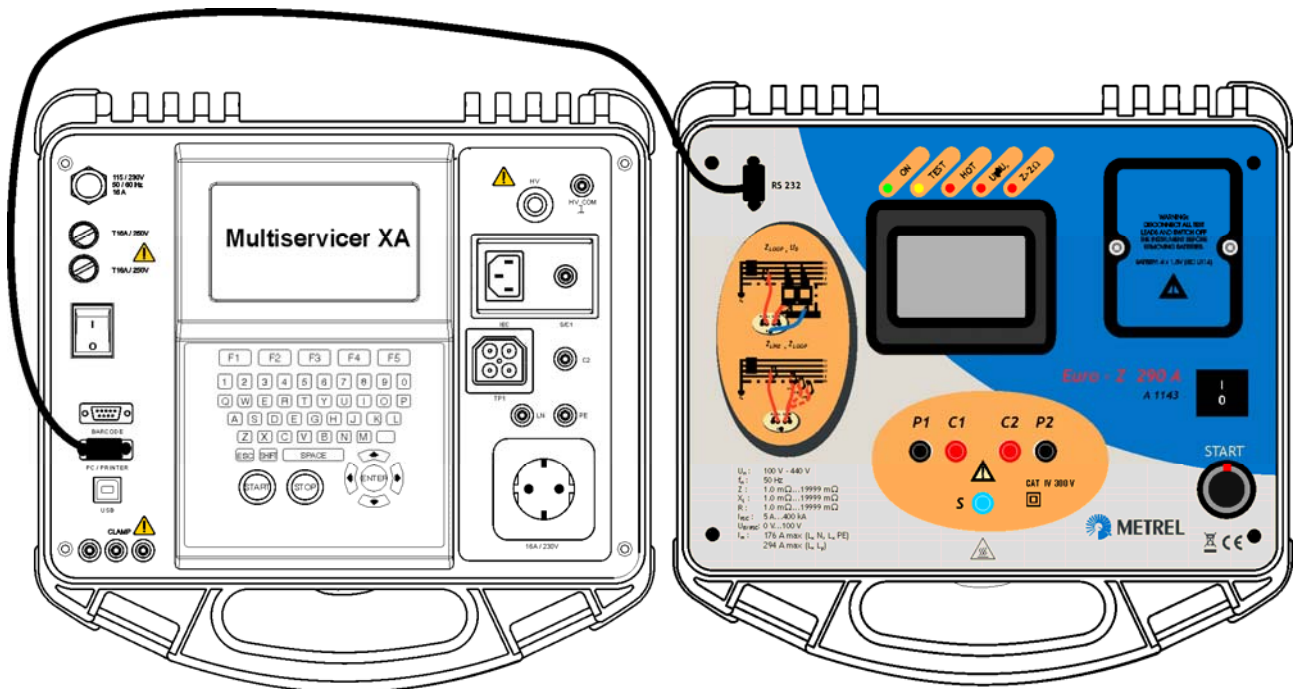

Figure 4.3: Connection of the Euro Z 290 A adapter to the Multiservicer XA
- ❑ Connect communication interface cable RS 232_9pin_female / RS 232_9 pin_male to the Multiservicer XA and the Euro Z 290 A. See figure 4.3.